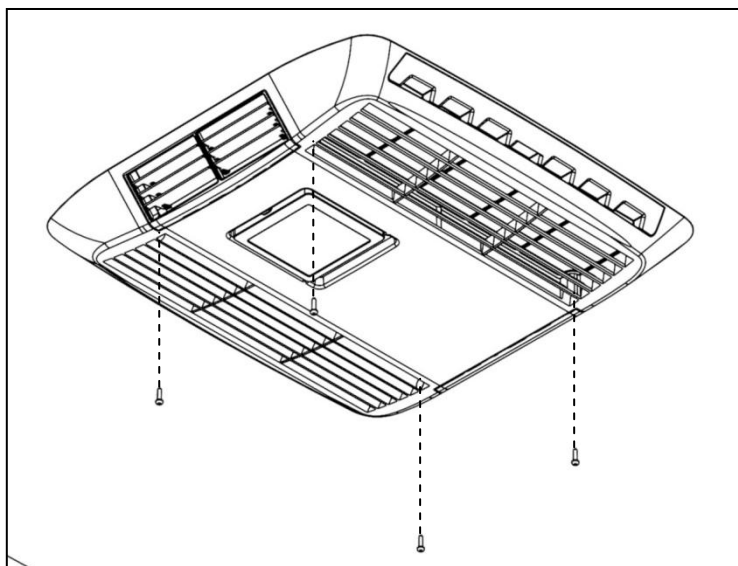

Fig 16: Secure the main plenum cover to the duct assembly with the four screws provided
- Secure the main plenum cover to the duct assembly with the 4 screws provided (Fig 16).